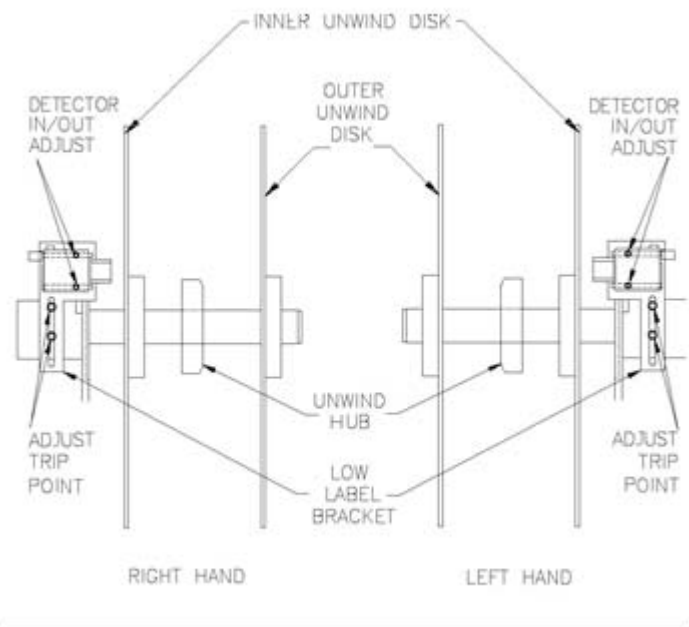

Figure 49 Low Label Alarm Adjustment
3. Use a 9/64 inch hex head wrench to loosen the low label detector's adjustment screws. See Figure 49.